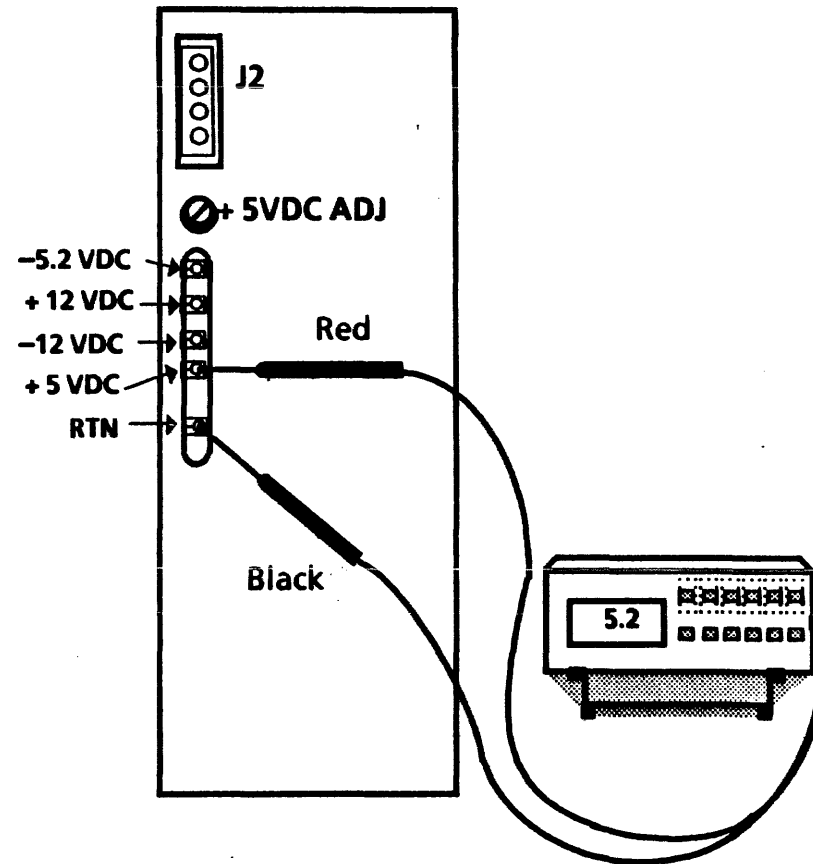

Figure 2-1 DC Voltages Check
2. Check the DC voltages as shown in Figure 2-1 for the following specifications: